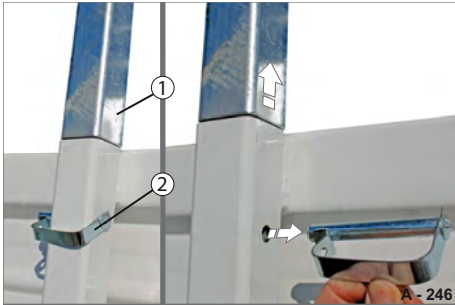

Fig. 175 Unlocking the support frame
- Pull the spring pin bolts (Fig. 175/2) out of the post pockets.
- Pull the support frame (Fig. 175/1) slowly and simultaneously out of the post pockets.